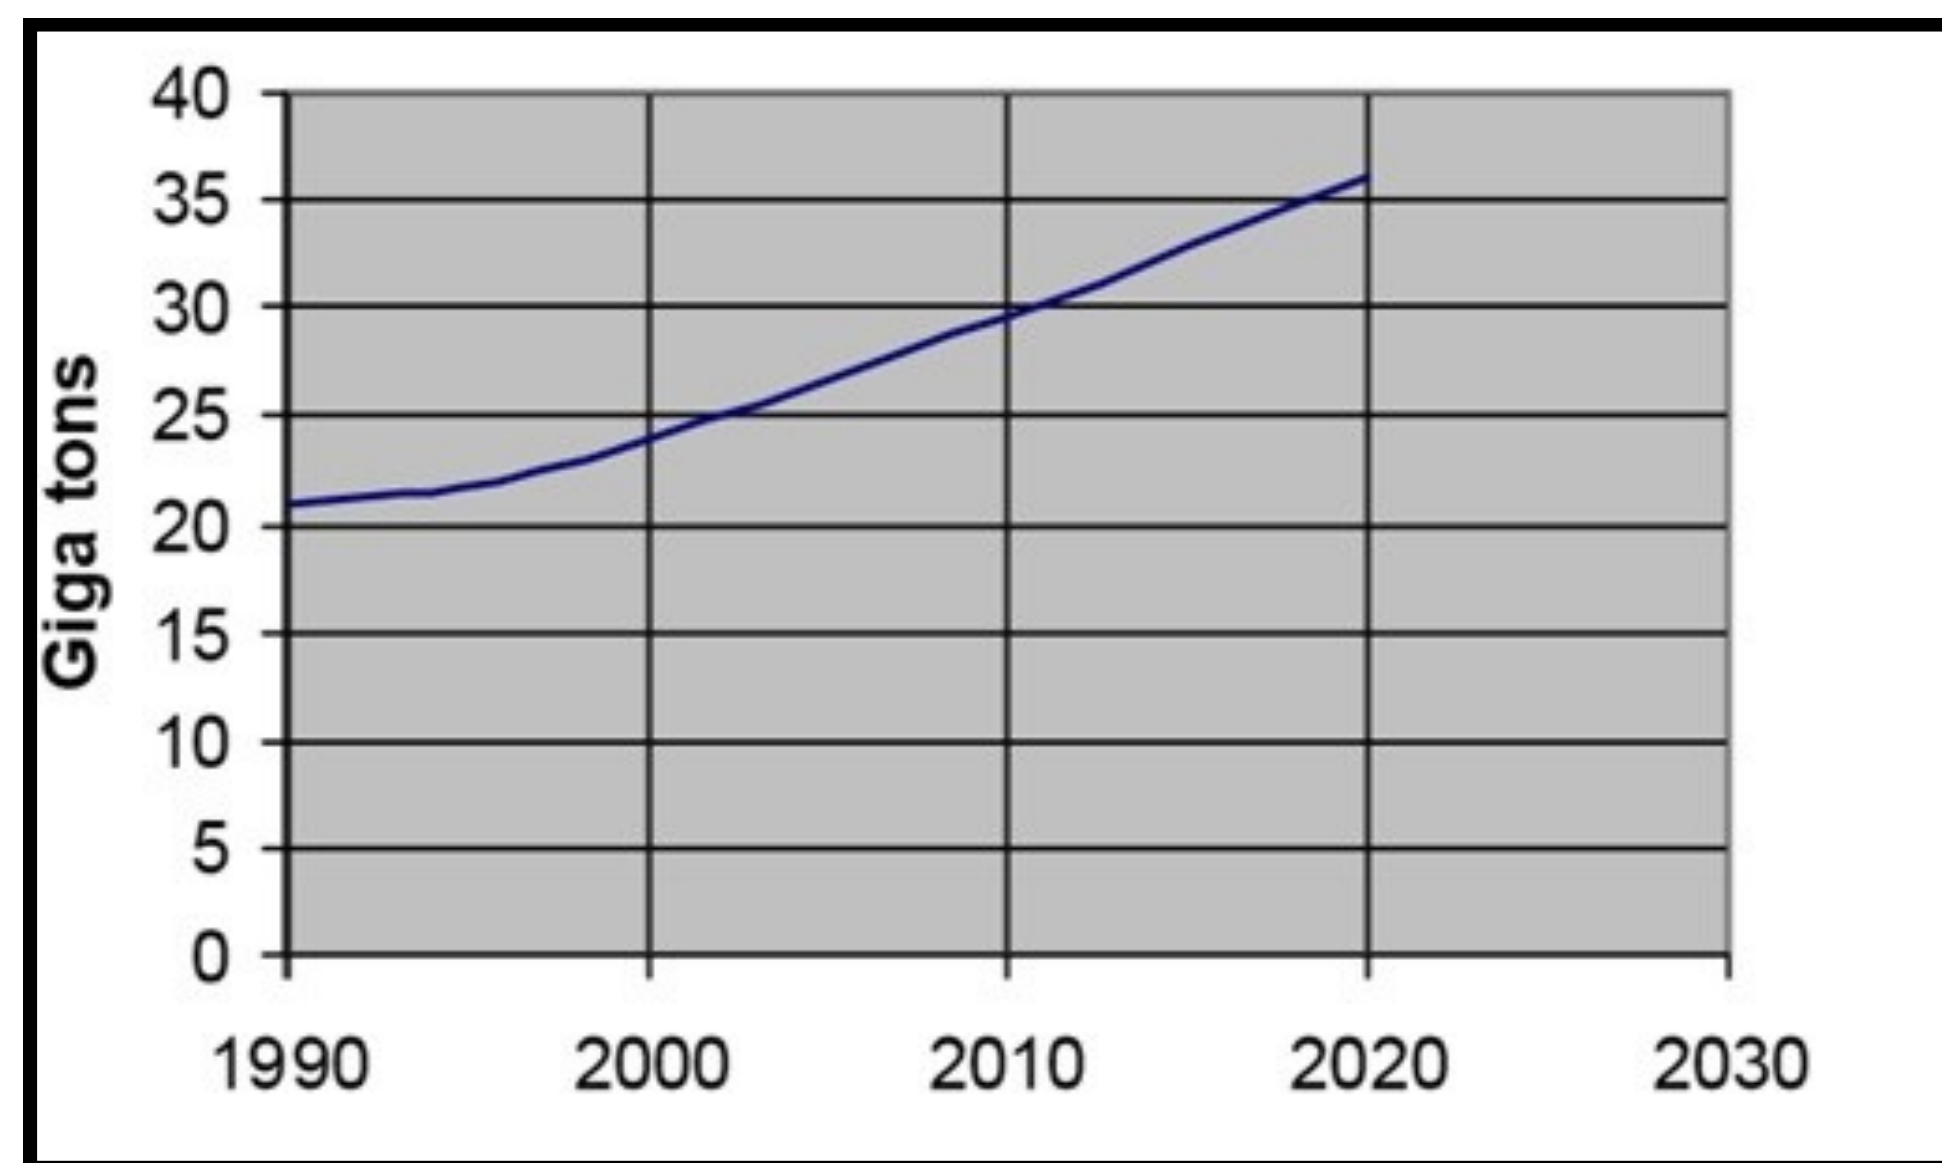

Figure 1: Increasing Level of Carbon Dioxide Per Year [1]
- Rising levels of carbon dioxide, as seen in Figure 1, have led the world to more environmental-friendly technologies, like the hybrid solar car